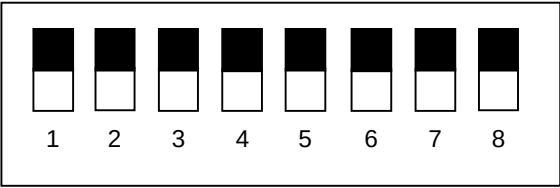

Figure 6.2.2 DIP switches (Being set for Standard setting)
(2) Perform as the procedure shown below.
(3) Set the DIP switch No.4 as shown in Figure 6.2.2.